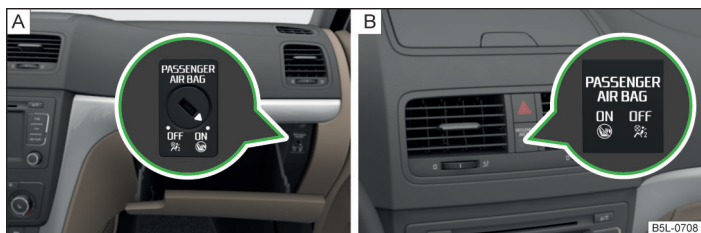

Fig. 148 Key switch for front passenger airbag/warning light for front passenger airbag activation/deactivation
- The **OFF**  warning light  » Fig. 148 on page 176 lights up after the ignition is switched on.
- Use the key to turn the slot of the key switch carefully into the position **OFF** » Fig. 148 - .
- Check that the warning light **OFF**  in the text **PASSENGER AIR BAG ON OFF** » Fig. 148 -  lights up after the ignition is switched on.
- Use the key to turn the slot of the key switch carefully into the position **ON** » Fig. 148 - .